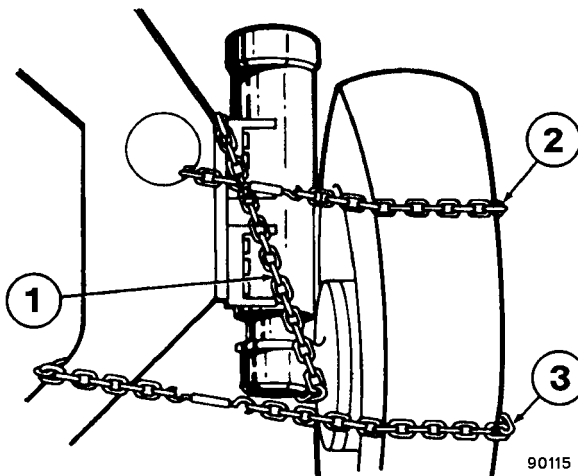

FIGURE 3-10. WHEEL SUPPORT CHAIN INSTALLATION
4. Wrap a chain and chain binder (2, Figure 3-10) around the top half of the tire. Secure chain through the frame. Chain should be tightened enough to prevent movement during bearing adjustment when the retainer plate is removed.
5. Install another chain (3) around the bottom half of the tire and tighten enough to prevent movement during bearing adjustment procedure.
7. Remove capscrews (5), retainer plate (8), and shims (7).
9. Remove tire retaining chains (2 & 3, Figure 3-10).
18. Reinstall tire support chains (2 & 3, Figure 3-10).